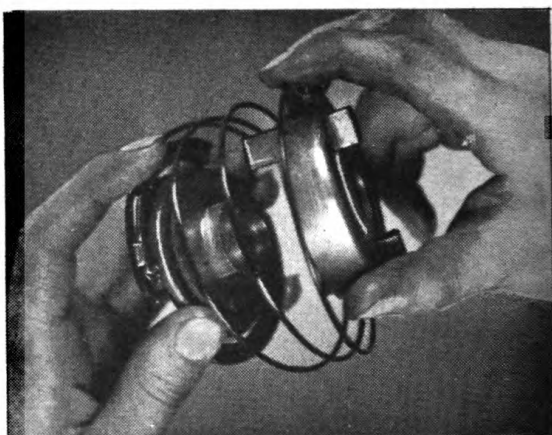

Fig. 60. Checking Impulse Coupling
2. With the impulse coupling off, check for mechanical defects. The impulse coupling hub should be free in the impulse shell, the spring holding it against the stop in the shell. The impulse pawls should be very free on the bosses on the impulse coupling hub. The end of the pawls which strike the stop pin should not be worn or broken off at the corner which drags over the stop pin. Do not use any grease and only rarely a very light oil on the bosses of the impulse where the pawls fulcrum. Fig. 60.
Make sure hub is free in the shell. Make sure that the spring is securely attached to the hub and shell of the impulse. Fig. 60.